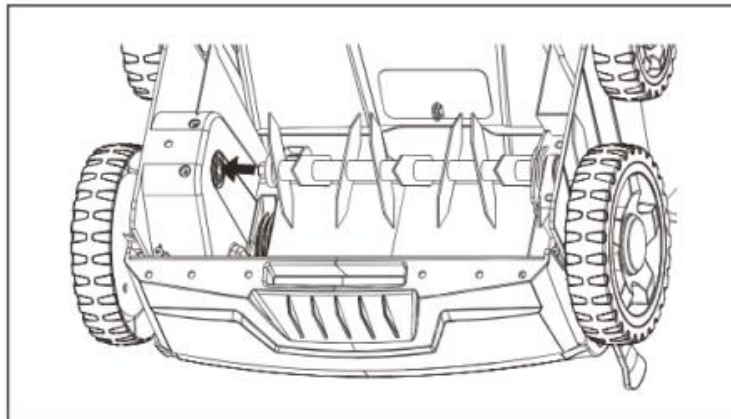

Fig. 11
2. Remove the hex nut from the drive shaft and bearing socket using the bolt and spring washers (See Fig. 11).